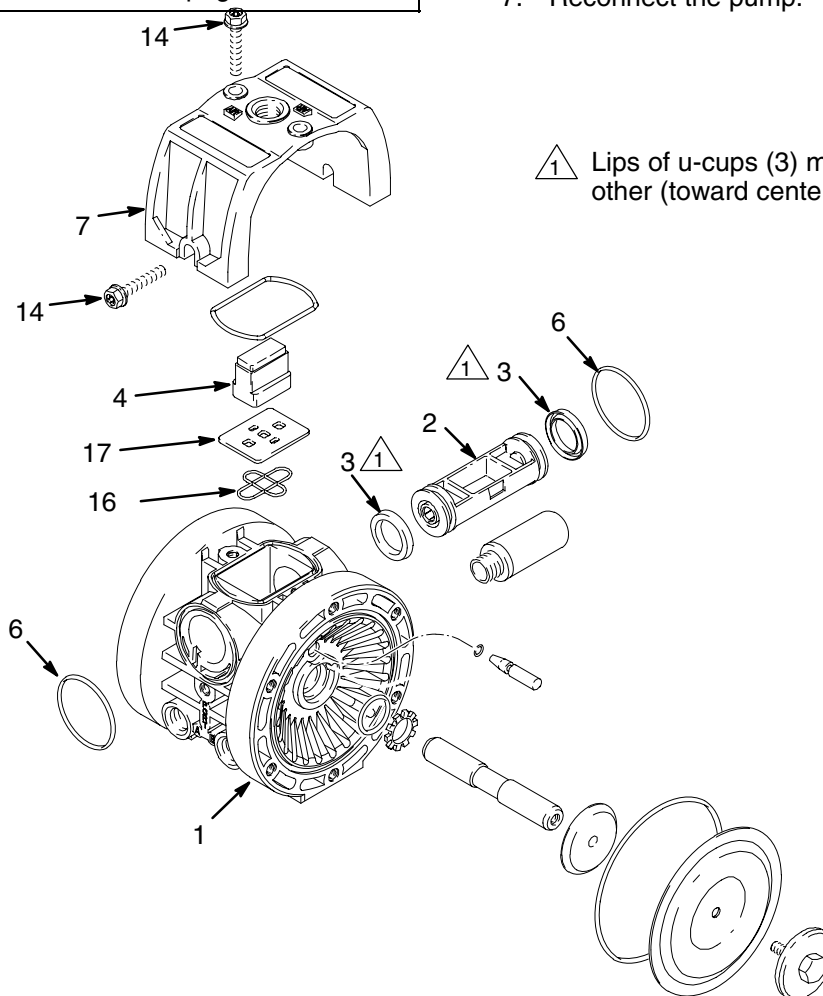

Fig. 4
Service the air valve as follows. See Fig. 4.
2. Remove the four screws (14) that hold the valve cover (7) on the center housing (1).
3. Remove the valve block (4) and valve carriage (2), and replace the u-cups (3). Replace the valve carriage and valve block. When you replace the valve carriage, position it all the way to one side or the other.
- NOTE:** The valve block shown in Fig. 4 is for pumps with an air-operated air motor. If your pump has a solenoid-operated air motor, this step does not pertain. Items 2, 3, 4, 16, and 17 are not required.
5. To replace the valve cover (7), spread cover apart enough not to damage the square ring packings (6) and slide cover (7) into the center section.
6. Replace screws (14), and torque the screws to 40 in-lb (4.5 N.m). See **Torque Sequence** on page 18.